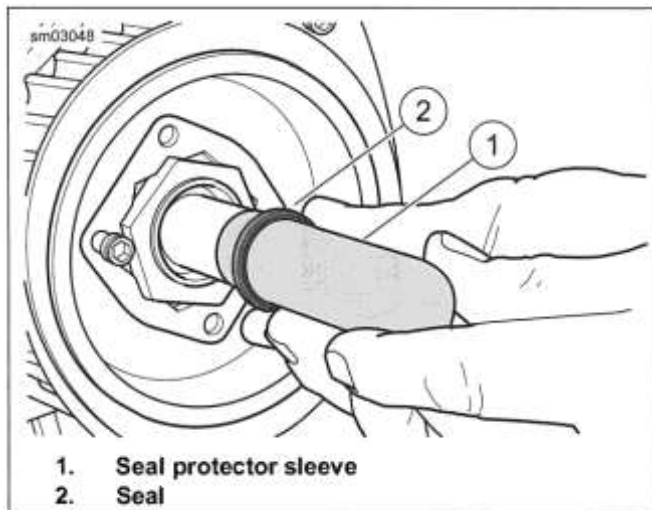

Figure 5-75. Seal Protector Sleeve
1. See Figure 5-75 Place seal protector sleeve (1) from gear seal installer over end of mainshaft.